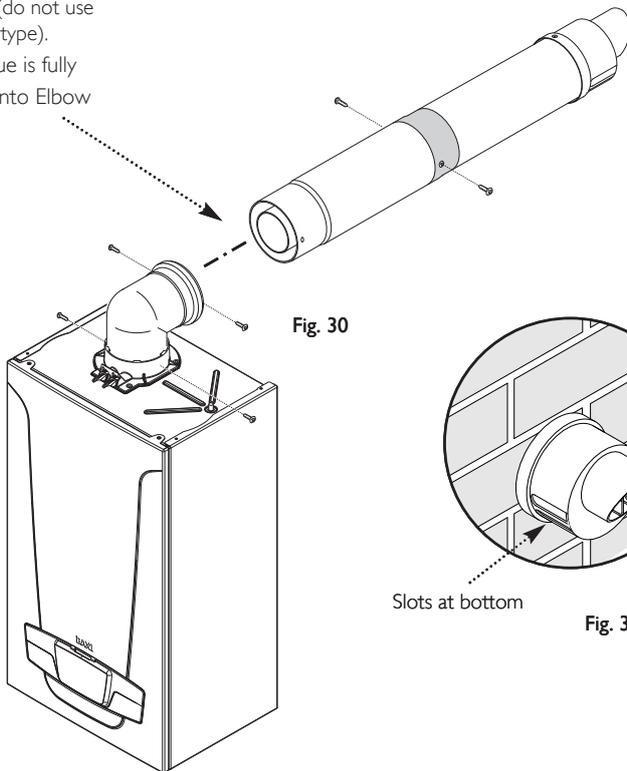

Fig. 30
11. Draw the flue back through the wall and engage it in the elbow. It may be necessary to lubricate to ease assembly of the elbow and flue (Fig. 30).
12. Ensure that the terminal is positioned with the slots to the bottom (Fig. 31). Secure the flue to the elbow with the screws supplied (Fig. 30).